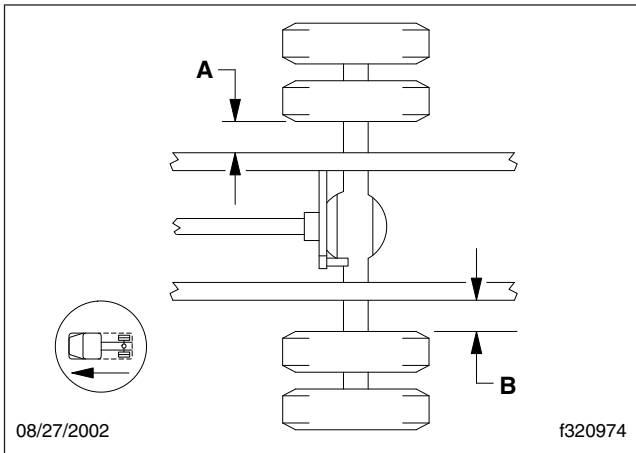

Fig. 2, Rear-Axle Tracking Measurements (single axle)
1. At the forward edge of the right rear tire, measure the distance from the inner side of the tire to the outer side of the right frame rail. See Fig. 2.
2. At the rear edge of the left rear tire, measure the distance from the inner side of the tire to the outer side of the left frame rail. See Fig. 2.